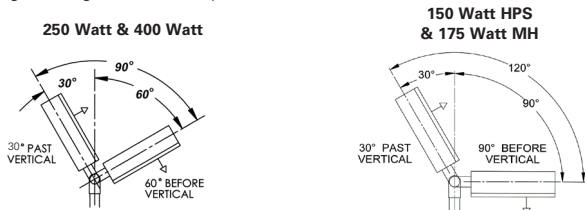

Figure 7 - Final Vertical Adjustment
7. To make final vertical adjustment, loosen the two (2) pivot bolts on the floodlight yoke to position floodlight at the desired angle (within the acceptable aiming range limits). See Figure 7. Tighten the two (2) pivot bolts to 45 lbs.-ft.